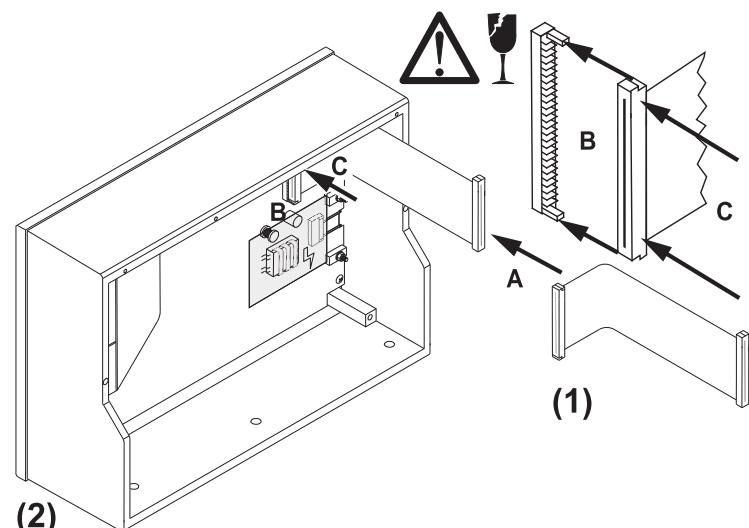

Fig. E 7-9: Attaching the connecting flat cable
8. Place again the last detached plug of the connecting flat cable (A) exactly between the two guiding pins of the connector on the display pcb (B). Fasten it with slight pressure (C). Avoid damage of the connector, the locker and the connecting flat cable because of canting. Then prepare it like shown in Fig. E 7-9.